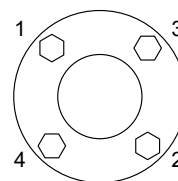

Figure 2 Valve Installation
- First, use the bolts and nuts for providing a temporary joint of the valve flange and the pipe flange. Then gradually tighten pairs of kitty-cornered bolts and nuts with even force to fasten the valve flange and the pipe flange together. (See Bolt/nut tightening order in Figure 2)